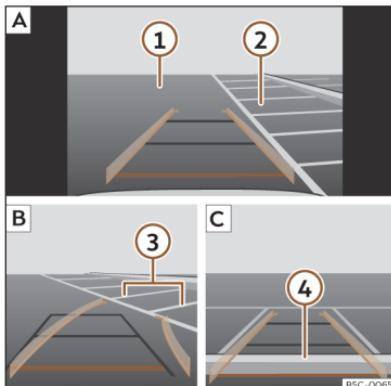

Fig. 149 Display on the infotainment system screen: parking with the reverse assistant.
Key to >>> **Fig. 149:**
- Stop the vehicle in front of the parking space >>> **Fig. 149** ② **A**.
- Reverse while turning the steering wheel so that the yellow lines enter the parking space. The green and yellow lines must match the side boundary lines ③ **B**.
- Stop the vehicle when the red line has reached the rear boundary ④ **C**.